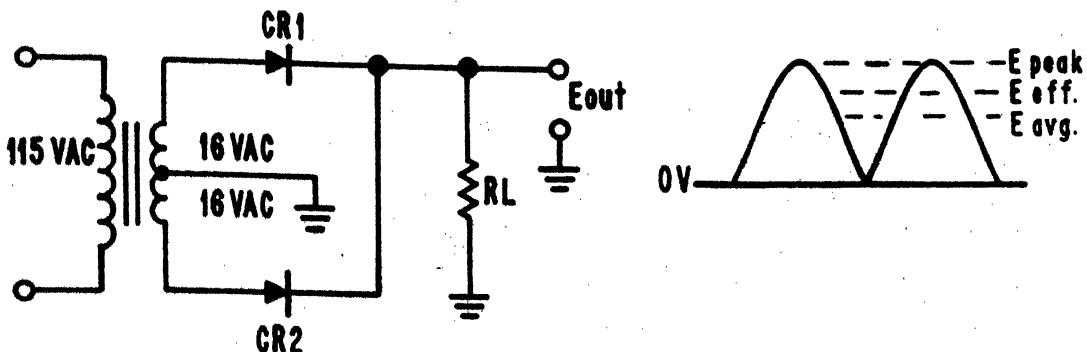

Figure 3
Refer to Figure 3 for the following discussion on the output of a full-wave rectifier (unfiltered) power supply.
3. There are zero volts dropped across a component that does not have current through it. See Figure 3.